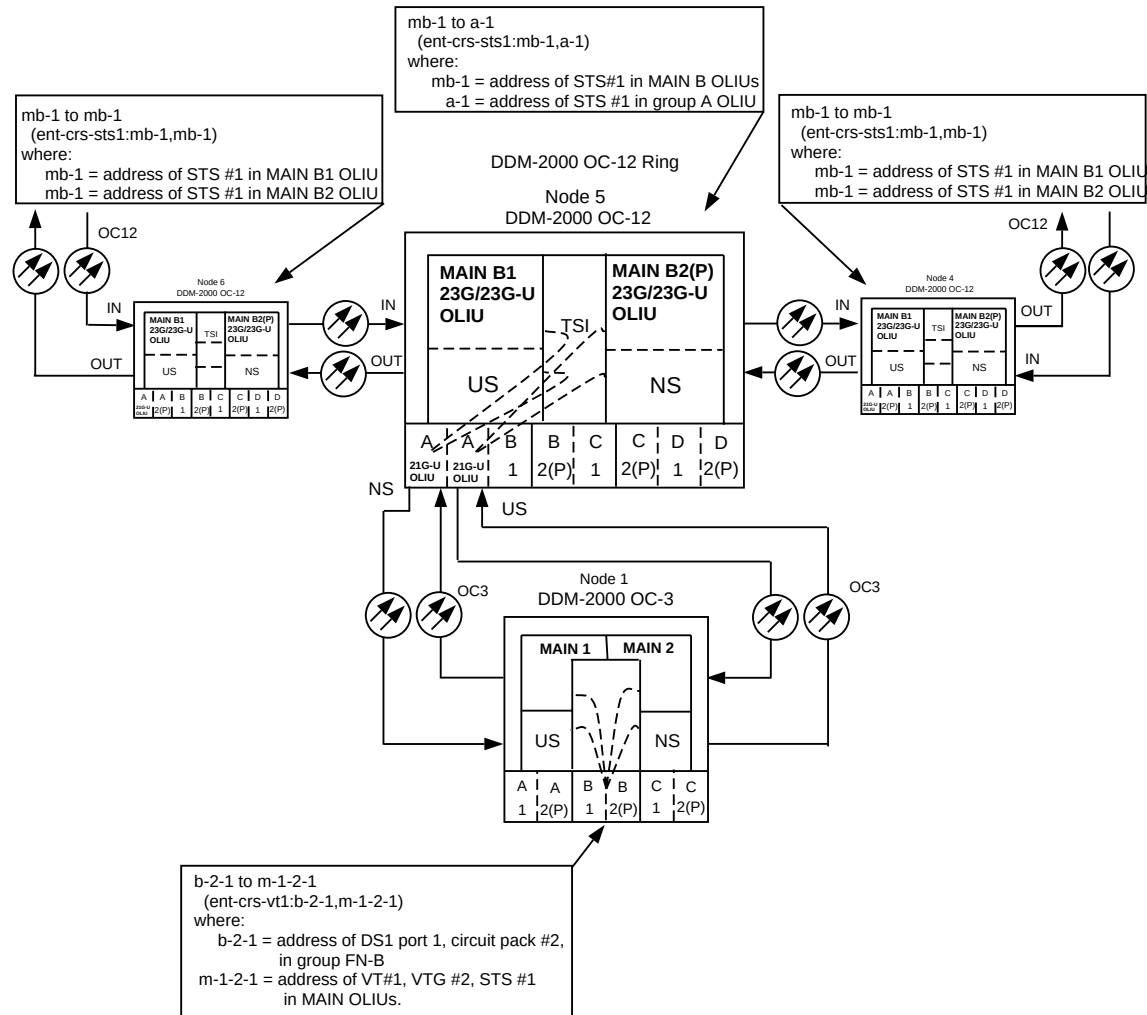

Figure 7. Example of Single Homing OC-12/OC-3 Cross-connections
In single homing configurations (Figure 7), the **21-Type OLIU** in **FUNCTION UNITS** group **A, B, C, or D**, slot **1** of the OC-12 shelf must be connected to the **MAIN 1 OLIU** in the OC-3 shelf. The **21-Type OLIU** in **FUNCTION UNITS** group **A, B, C, or D**, slot **2(P)** of the OC-12 shelf must be connected to the **MAIN 2(P) OLIU** in the OC-3 shelf.